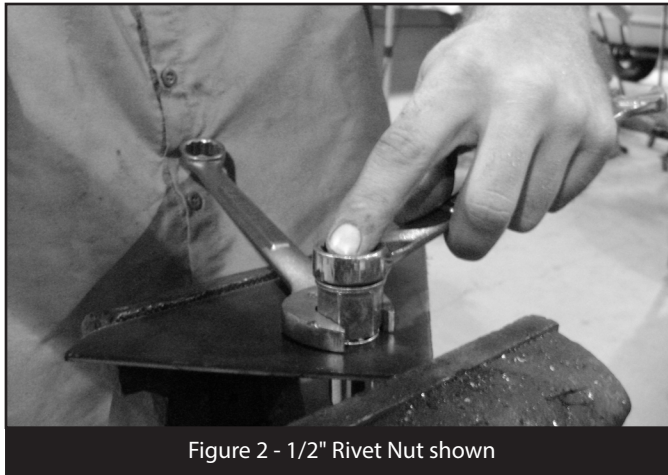

Figure 2 - 1/2" Rivet Nut shown
6. For a 3/8" rivet nut, hold the nut closest to the rivet nut still with an 5/8" wrench and tighten the 3/8" bolt with a 9/16" wrench to set the rivet nut. Be sure to hold the rivet nut flush to the surface and square to the hole as it is tightened. **Figure 2**
7. For a 1/2" rivet nut, hold the nut closest to the rivet nut still with an 7/8" wrench and tighten the 1/2" bolt with a 3/4" wrench to set the rivet nut. Be sure to hold the rivet nut flush to the surface and square to the hole as it is tightened. **Figure 2**